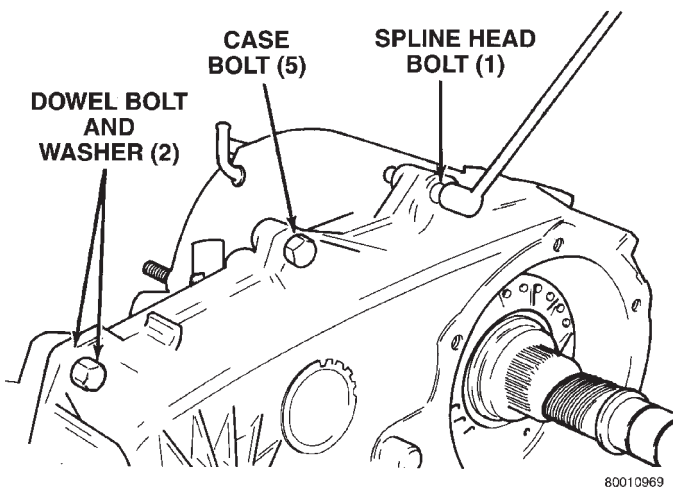

Fig. 18 Rear Case Alignment Bolt Locations
(1) Support transfer case so rear case is facing upward.
(2) Remove bolts holding front case to rear case. The case alignment bolts require flat washers (Fig. 18).